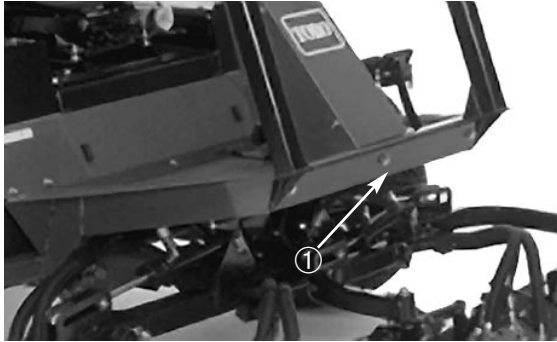

Figure 19
2. Attach a suitable chain, strap or cable to the center of the front frame member (Fig. 19).